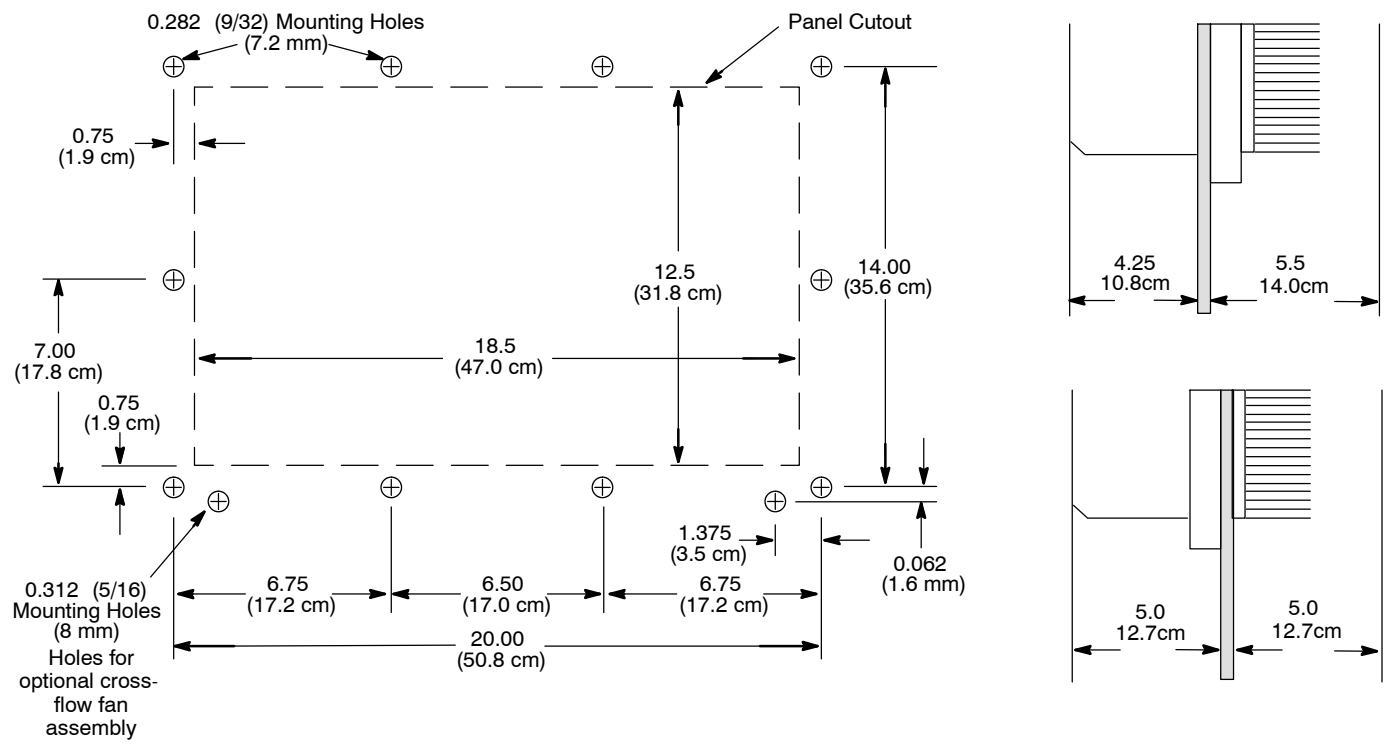

Figure 20 CL1060W Mounting Dimensions
1. Refer to Figure 20 for the mounting dimensions. Locate and mark the mounting holes in the cabinet.